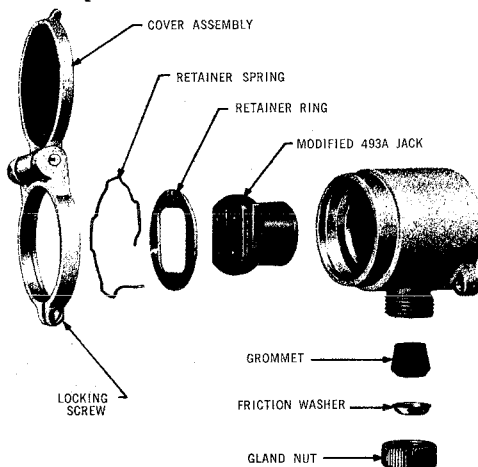

Fig. 15 — Assembly of KS-16151, List 1 Jack
- 6.04** Assemble and install the KS-16151, List 1 jack when used without conduit (Fig. 15 and 16) as follows: